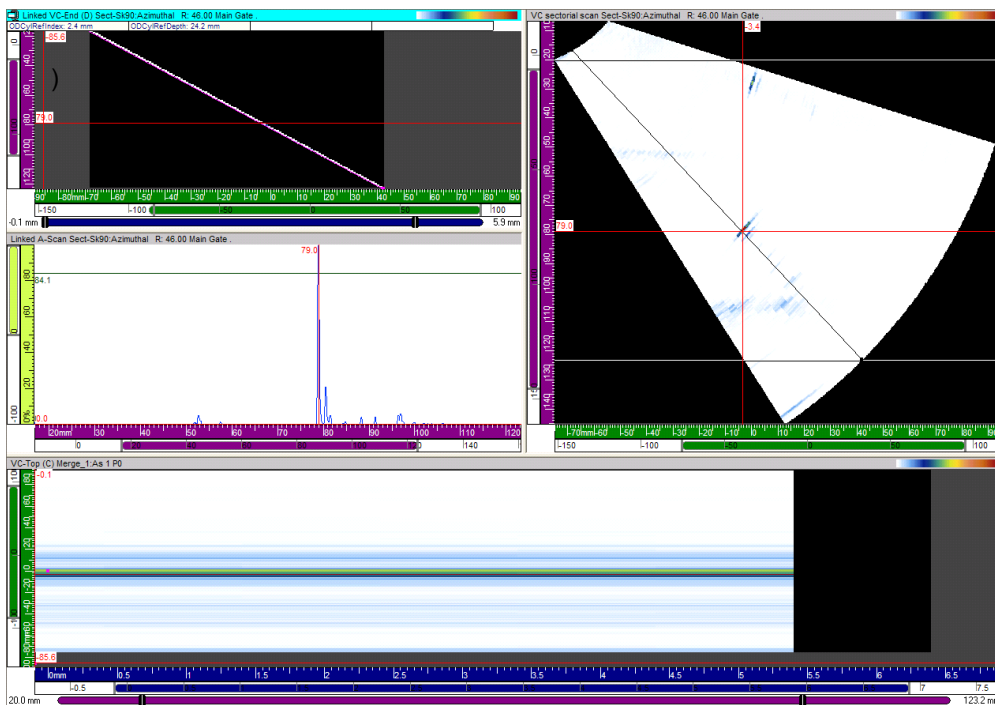

Figure 7-79 Analyzing cylindrical readings for a sectorial scan
2. Refer to Figure 7-79 on page 421 and perform the following actions:
- b) In the **Linked VC-END (D)** view, read the cylindrical correction values.